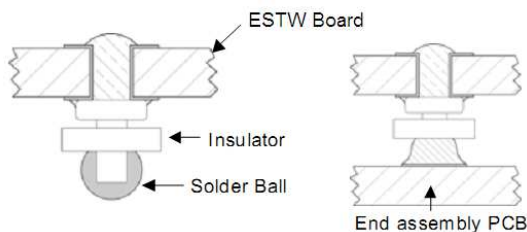

Figure 19. Column Pin Connector Before and After Reflow Soldering .
The surface mountable modules in the ESTW family use our newest SMT technology called “Column Pin” (CP) connectors. Figure 19 shows the new CP connector before and after reflow soldering onto the end-board assembly. The CP is constructed from a solid copper pin with an integral solder ball attached, which is composed of tin/lead (Sn/Pb) solder for non-Z codes, or Sn/Ag3/Cu (SAC) solder for -Z codes.